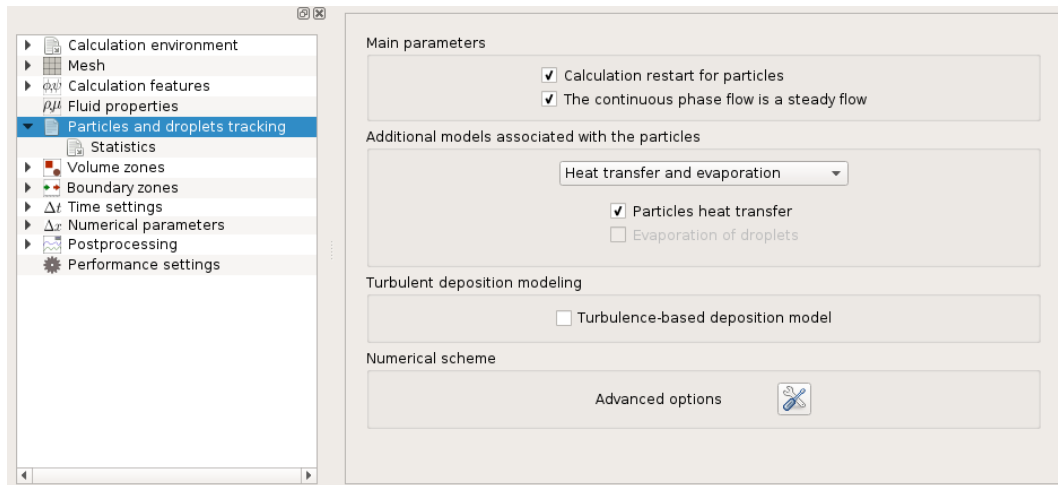
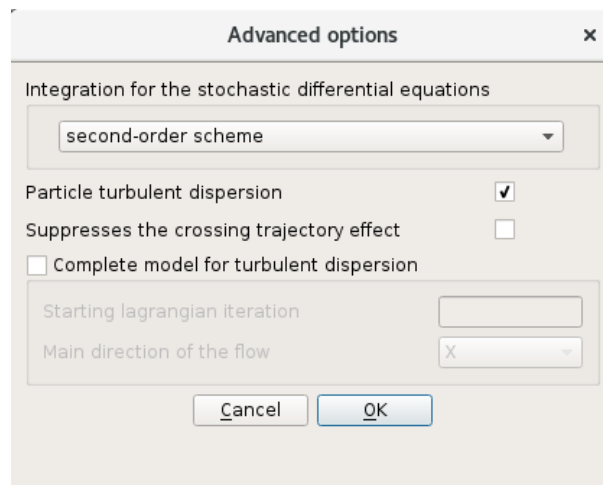

Figure 51: Lagrangian module - View of the Global Settings page
Figure 52: Lagrangian module - Global Settings, advanced numerical options
- **Global settings.** The user defines in this item the kind of Euler/Lagrange multi-phase treatment, the main parameters, the specific physics associated with the particles and advanced numerical options, see Figure 51 to Figure 52.